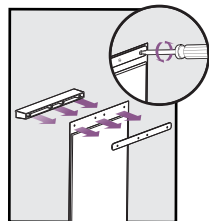

FIG. 17
4. Insert new vinyl flap and position horizontally and vertically to fit into door frame. Replace existing bar and tighten screws in place (**Fig. 17**).